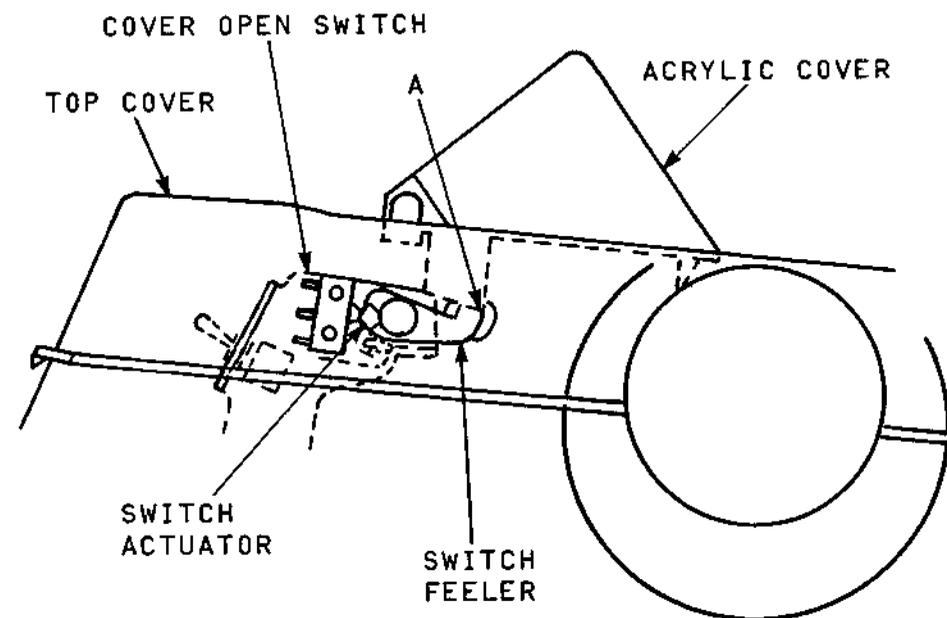

Figure 5-19 Cover Open Switch Adjustment
5.16 COVER OPEN SWITCH (Figure 5-19)